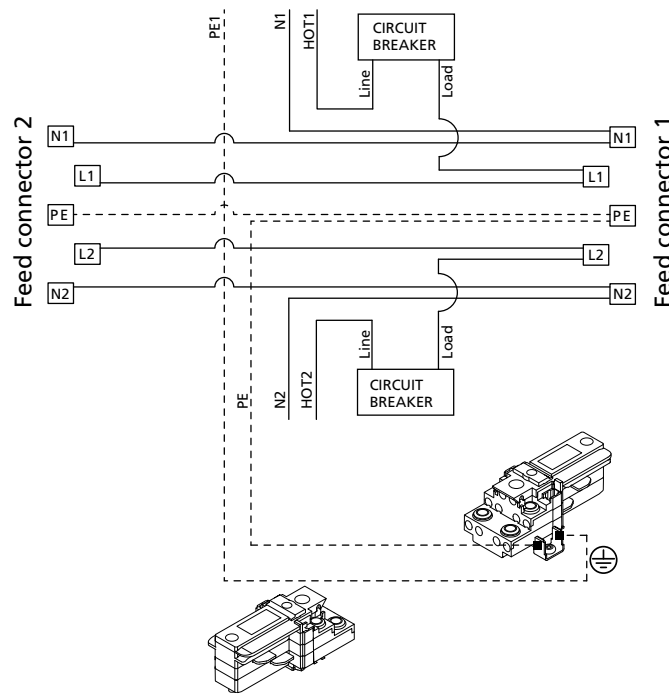

Figure 19: In-line feed wiring
- 2: Strip white Neutral wire and connect to Neutral 1 terminal (N1) of feed connector. Clamp wire using screw. See Figure 19.